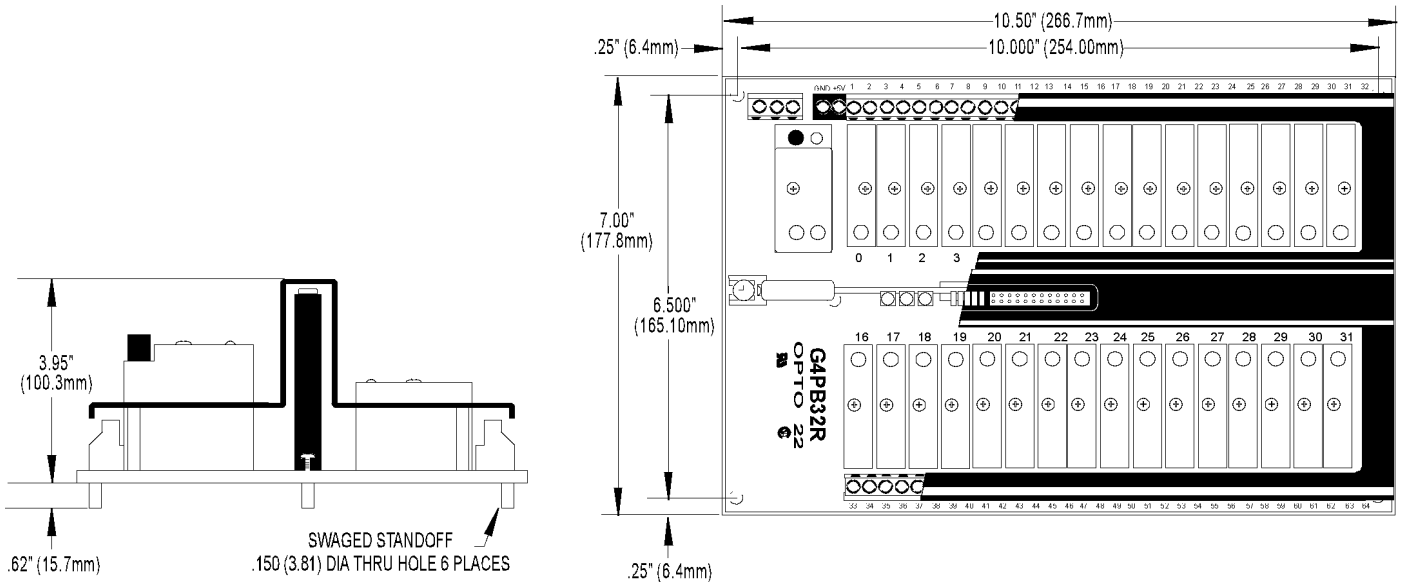

Figure 4: G4D32RS Dimensions and Mounting Information
2. Affix the G4D32RS to an enclosure or panel, using the mounting standoffs shown in Figure 4.